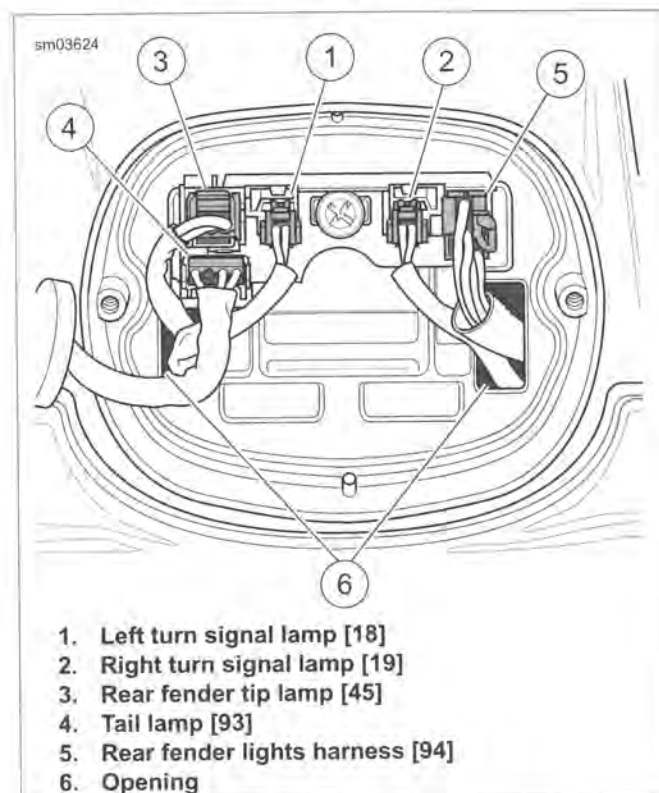
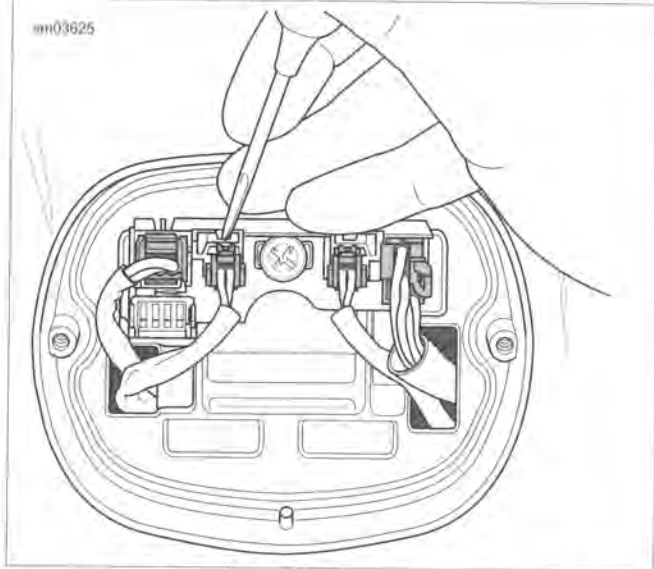
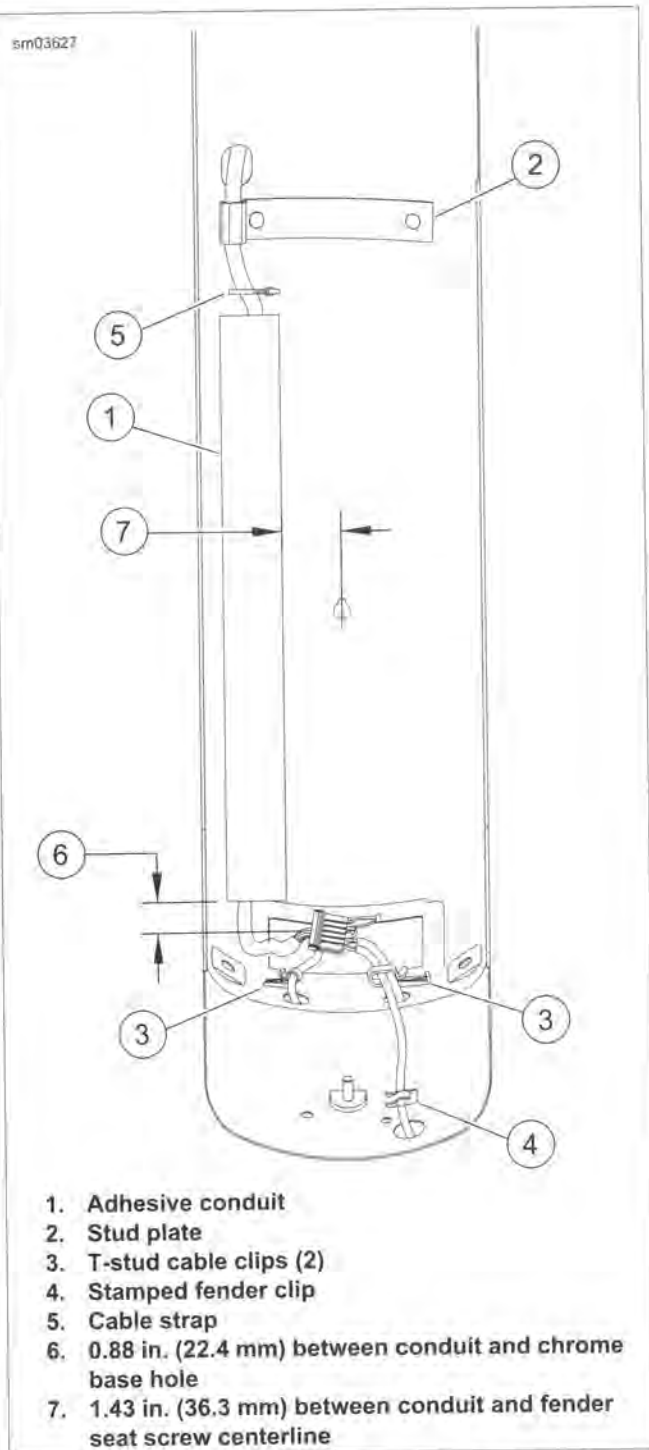
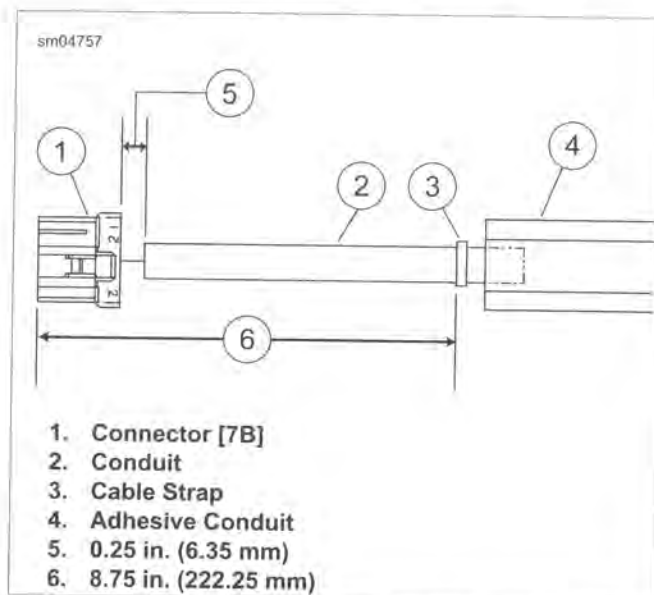

Figure 7-18. Rear Fender Lights Assembly
Figure 7-19. Use Pick Tool to Release Left Turn Signal Lamp Socket
Figure 7-21. Rear Fender Well
Figure 7-22. Install Cable Strap on Conduit
2. See Figure 7-18 and Figure 7-19. Disconnect all connectors.
See Figure 7-19. To release turn signal lamp connectors, use a pick or small screwdriver to press latch.
1. See Figure 7-18. Feed connectors through openings in chrome base. For best results, feed the larger socket housings first.
3. See Figure 7-18. Disconnect connector (5) and feed through opening to inboard side of fender.
4. See Figure 7-21. Release turn signal lamp wires from cable clips (3). On FLHTC/U, FLHTK models, release wire from stamped fender clip (4).
5. Release harness from channel in stud plate (2). Loosen flange nuts if necessary.
6. Remove adhesive conduit (1) with wire harness from fender well.
7. If replacing only conduit (1):
- c. See Figure 7-21. Using a soapy non-abrasive scouring pad, thoroughly clean fender well in area of adhesive conduit.
- a. Verify cable strap (3) is installed as shown in Figure 7-22 to prevent rearward movement of the harness.
- b. Draw harness through **new** conduit until progress is halted by installed cable strap (3).
4. See Figure 7-21. Remove paper backing and lightly press conduit in location shown in graphic.
8. Capture harness in channel of stud plate (2). If loosened, tighten flange nuts to 60-96 **in-lbs** (6.8-10.9 Nm).
9. Feed rear harness connectors through openings in fender and capture turn signal lamp wires in cable clips (3). On FLHTC/U, FLHTK models, capture rear fender tip lamp wire in stamped fender clip (4).
10. See Figure 7-18. Mate tail lamp connectors (3, 4) to tail lamp base.